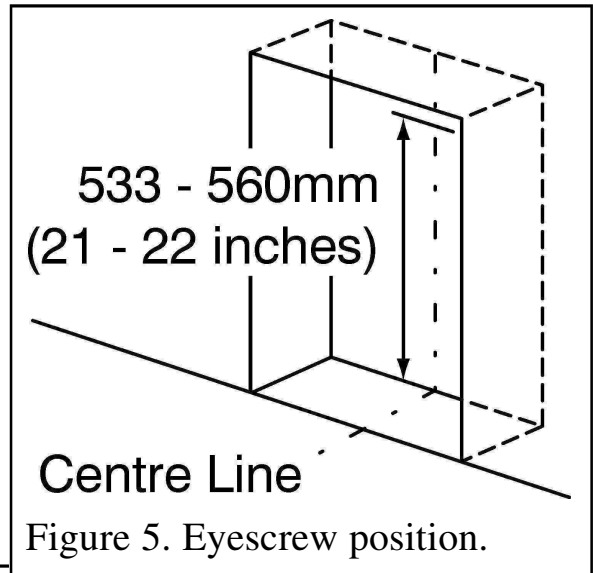

Figure 5. Eyescrew position.
2. Mark the eyescrew position on the centre line at the back of the fireplace opening and at a height of 533-560mm (21 inches - 22 inches) (See figure 5).